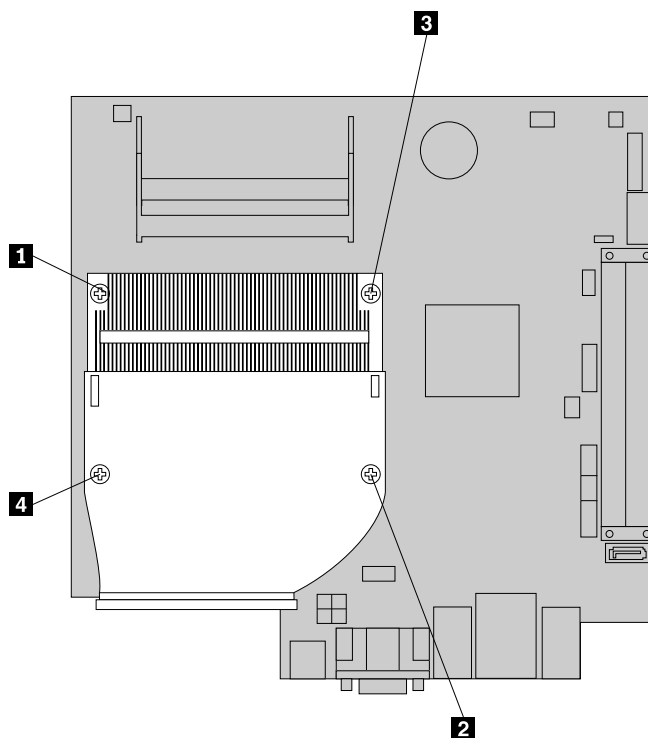

Figure 18. Removing the heat sink
7. Follow this sequence to install the four screws to secure the new heat sink, as shown in Figure 18 “Removing the heat sink” on page 82: